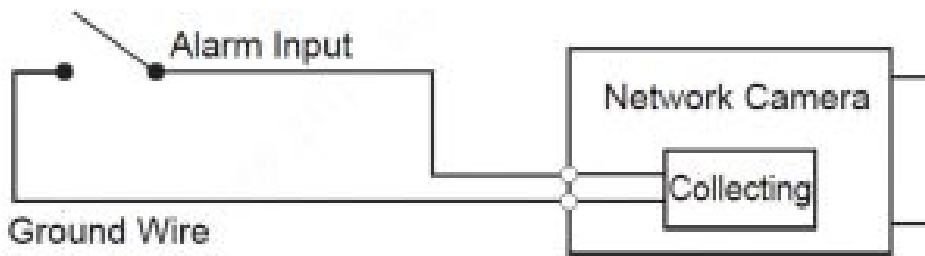

Figure 1-2 Alarm input
Step 1 Connect alarm input device to the alarm input end of the I/O port, see Figure 1-2.